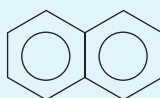

Figure 13
- naphthalene in bitumen (**Figure 13**)
- During coking, a naphthalene, $C_{10}H_8(l)$, molecule (Figure 13) in a bitumen sample is thermally cracked into a hexane molecule and a but-2-ene molecule as products.